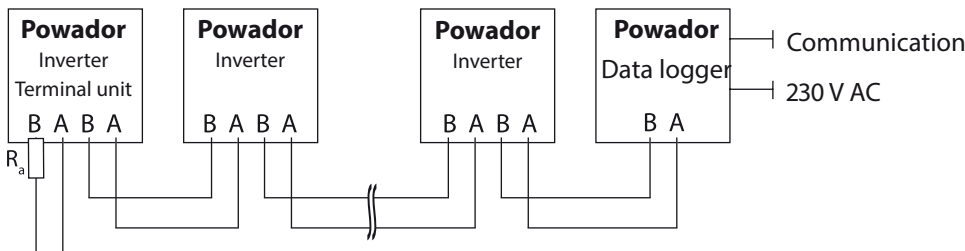

Figure 25: RS485 interface wiring diagram
- Wire B (+) with wire B (+) (see Figure 25 on page 26)